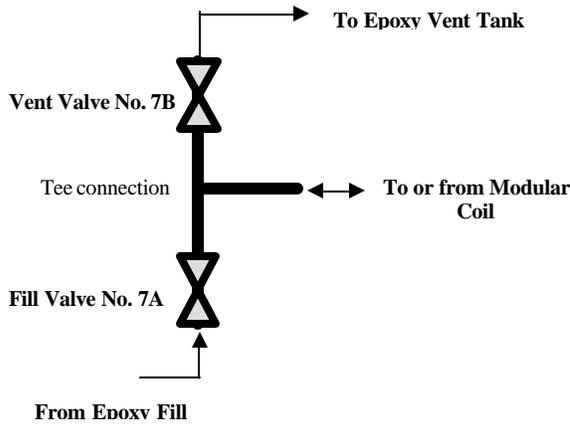

Figure 4- Typical Zone 2 Valve Assembly
- 6.15.10 Continue filling operations until the epoxy exits sprues 7 thru 30 [Zone 2] and approaches the tee connection. **Open** the corresponding “A” valve. Once the line from the manifold “A” valve to the tee connection is filled, **Close** the corresponding “B” valve. This allows that sprue to be used for filling the coil. Figure 4- Typical Zone 2 Valve Assembly